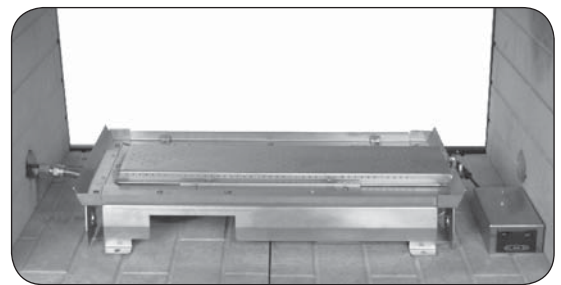

Fig. 9-2 Box location, right or left side
3. Place the burner system in the fireplace. Center the burner in the fireplace. (Reference Fig. 9-2 for orientation.)
6. Place the (switch/remote receiver) box at the right (or left) front corner of the fireplace. Be sure to run its wire through the opening on the right (or left) side of the burner system, and that the wire remains away from the burner system and its flame during operation (See Fig. 9-2, right side placement shown).